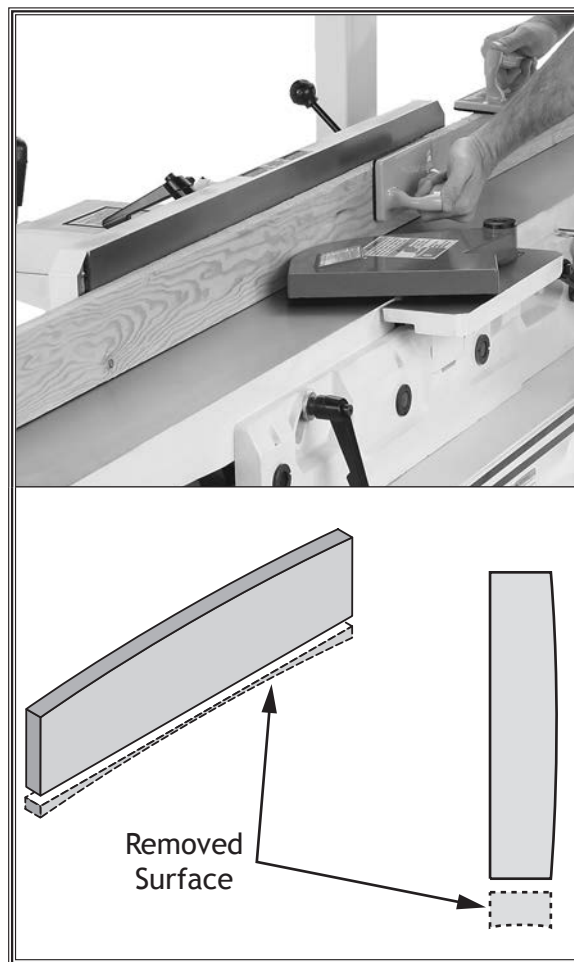

Figure 28. Example of a typical edge jointing operation.
Edge jointing (see **Figure 28**) produces a flat and true surface along the side of a workpiece by removing uneven areas. It is an essential step for squaring up warped or rough stock and when preparing a workpiece for joinery or finishing.
6. Place workpiece firmly against fence and infeed table with concave side facing down, as shown in **Figure 28**.